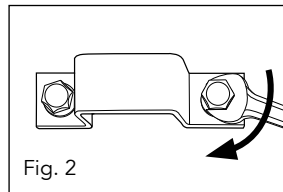

Fig. 2
2. All screws must be tightened correctly (screws, washers and spring washers supplied) (Fig. 2). A qualified professional should check the anchoring of the bar before the machine is started.